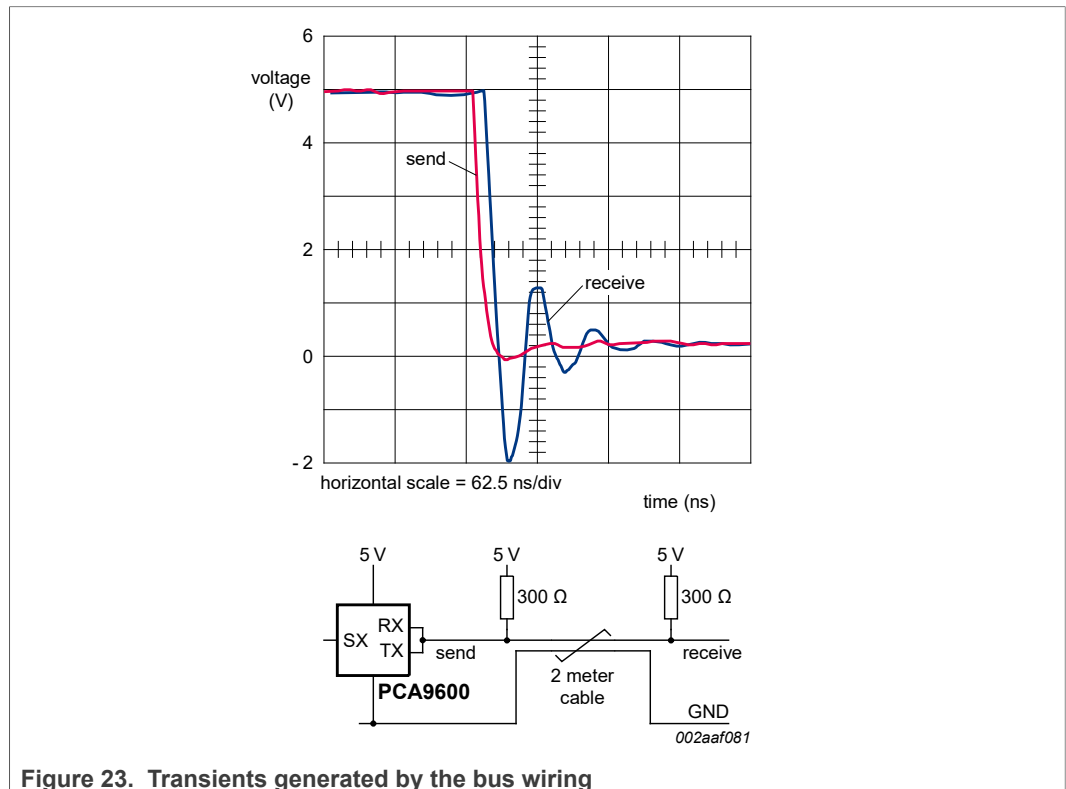

Figure 23. Transients generated by the bus wiring
**Answer:** For PCA9600 the -0.3 V Absolute Maximum rating is not intended to apply to transients, it is a DC rating. As shown in Figure 23, there is no theoretical reason for any undershoot at the IC that is driving the bus LOW and no significant undershoot